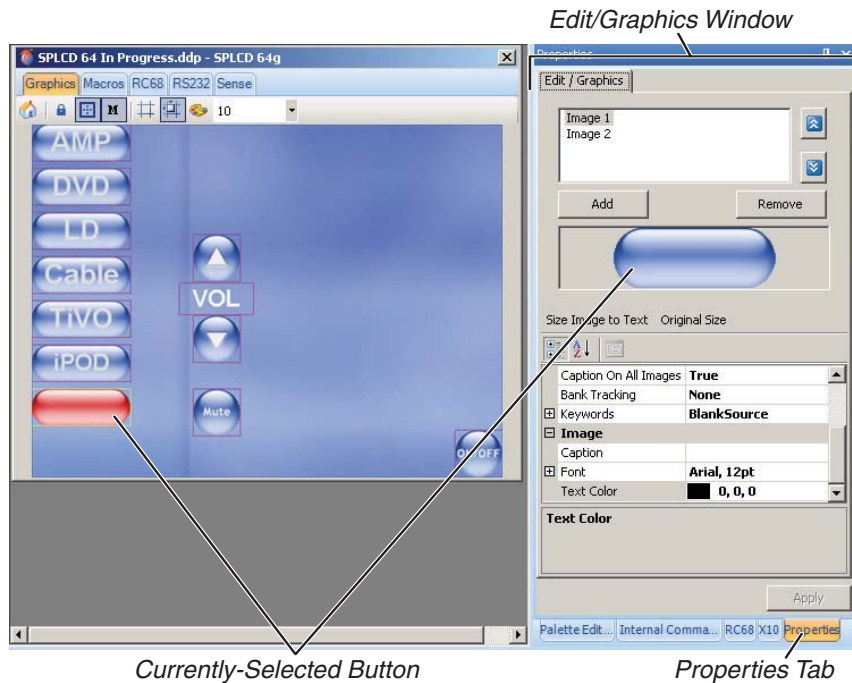

Figure 17: The SPLCD Edit/Graphics window
1. Click on the *Properties* tab. The *Edit/Graphics* window will appear (Figure 17), showing the currently-selected button. (If the home page is currently selected the *Edit/Graphics* window will be empty.)